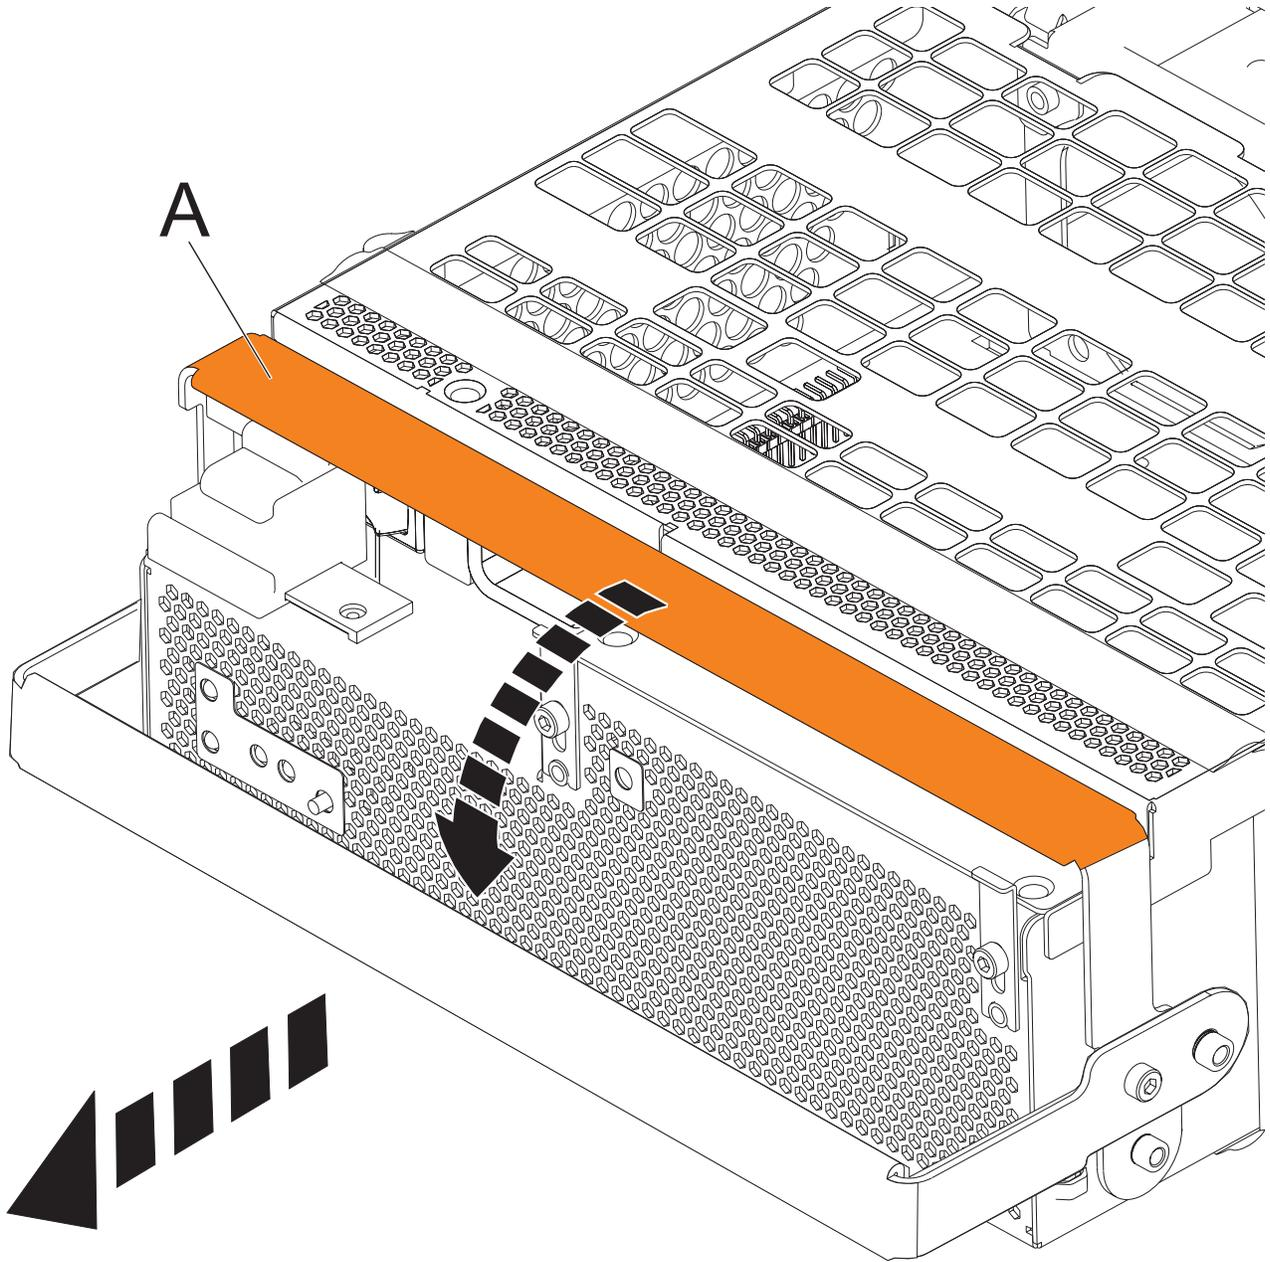

Figure 79. Remove the offline converter assemblies
- a. Pull the OCA handle (A) all the way down in the direction shown to unseat the OCA. See Figure 79 on page 101.